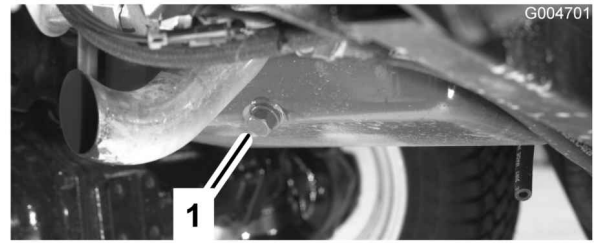

Figure 48
1. Remove either drain plug (Figure 48) and let the oil flow into a drain pan. When the oil stops, install the drain plug.